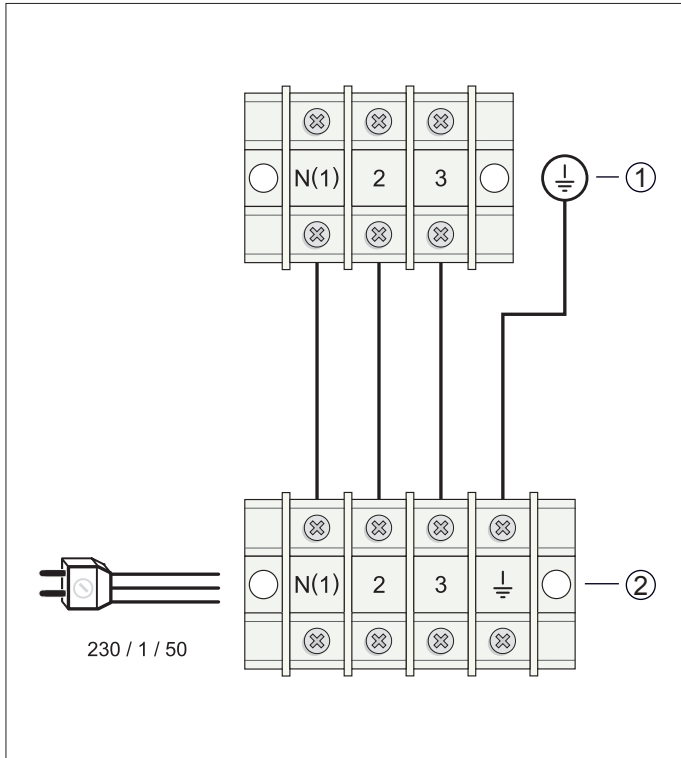

Fig. 11.4 Electrical layout for outdoor and indoor connection SDH 18-050 M2NW and SDH 18-060 M2NW.
- Pass the electrical cable from the rear of the indoor unit through the specific hole in the front. Connect the cables in the indoor unit terminal space according to the corresponding connection layout. (Figure 11.4 and 11.5).